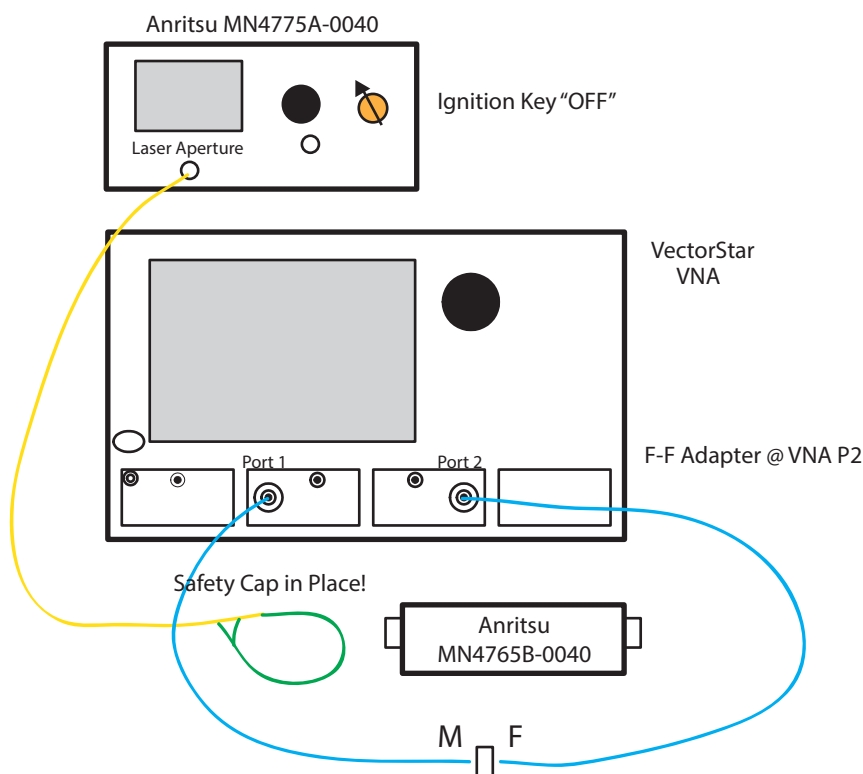

Figure 3-25. Initial ME7848A-0240 850 nm Initial System Setup
1. Configure components (VNA, O/E, E/O, RF, and Optical cables) as shown in Figure 3-25.
- g. Keep **Ignition-Key** in **OFF** Position, as shown in Figure 3-25.
6. Make initial VNA RF Connections shown in Figure 3-25.
7. Make Optical connection to MN4775A-0040 as shown in Figure 3-25.